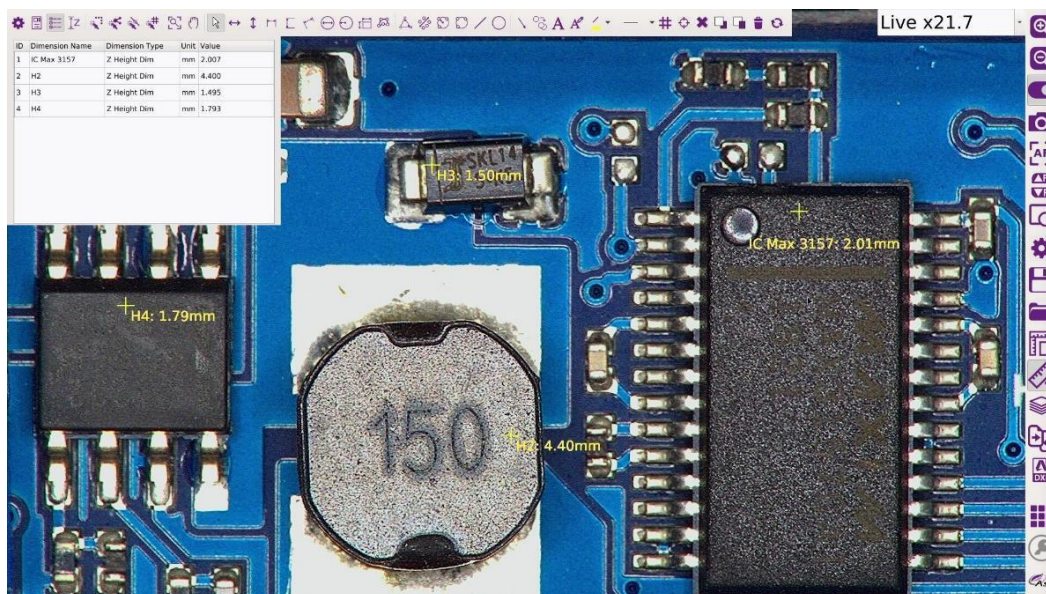

Fig. 29
11. Now the height measurement values can be repositioned beside the measured features if required and can also be given specific names by opening the Measurement Table (Fig. 29) (Measurement Toolbar icon 3 Fig 21(a)). This allows for clear identification on an exported image or export to a .csv file.